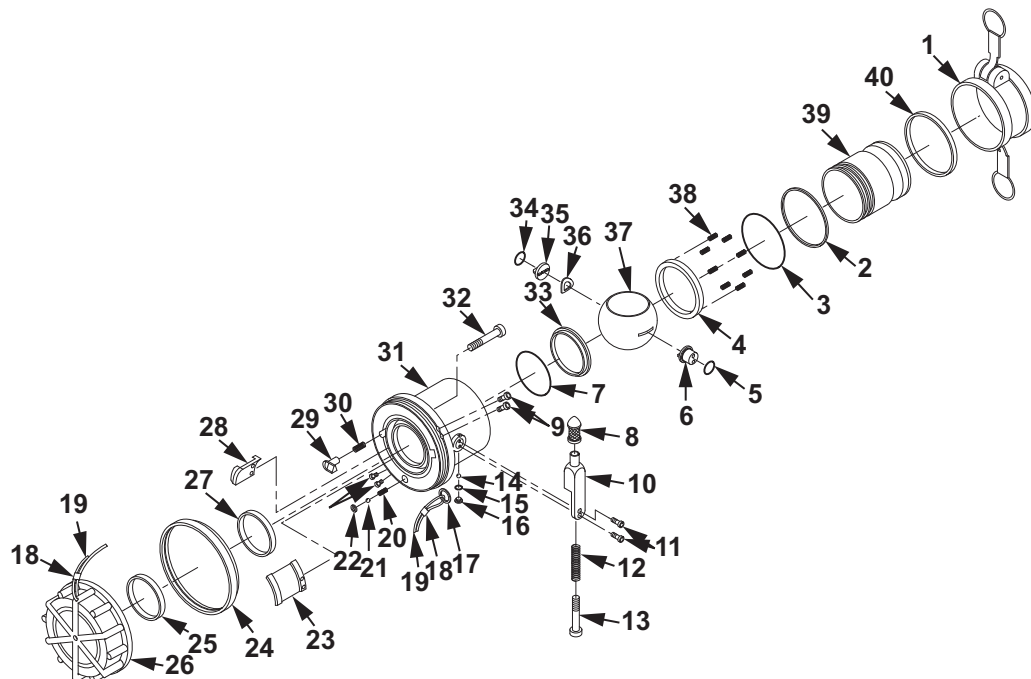
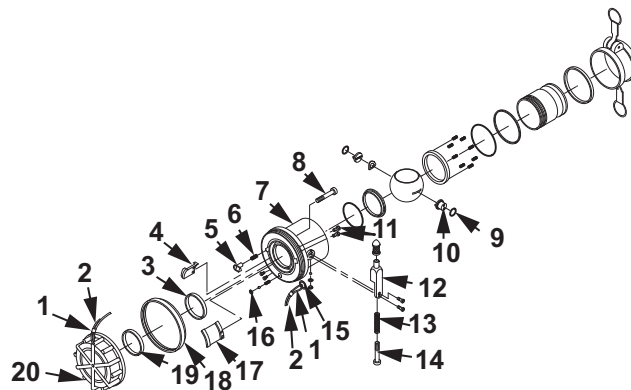

Figure 1. Valved Dry-Break Coupling Disassembly.
Figure 2. Valved Dry-Break Coupling Assembly.
1. Using a torque wrench and screwdriver bit, check running torque of screw (Figure 1, Item 16). If running torque is less than 3.5 in. lb (0.45 N•m), discard screw (Figure 1, Item 16).
Keep inlet hole in the up position when removing screw (Figure 1, Item 16) to prevent loss of ball bearings (Figure 1, Item 14) inside coupling (Figure 1, Item 31).
2. Remove screw (Figure 1, Item 16) from coupling (Figure 1, Item 31).
3. Remove O-ring (Figure 1, Item 15) from screw (Figure 1, Item 16).
4. Discard O-ring (Figure 1, Item 15).
5. Hold coupling with screw hole toward cleaning cloth and rotate inlet fitting to allow ball bearings (Figure 1, Item 14) to fall onto the cleaning cloth.
6. Remove inlet adapter (Figure 1, Item 39) from coupling (Figure 1, Item 31).
7. Remove seal (Figure 1, Item 4) from inlet adapter (Figure 1, Item 39). Discard seal (Figure 1, Item 4).
8. Remove eight springs (Figure 1, Item 38) from inlet adapter (Figure 1, Item 39).
9. Remove O-ring (Figure 1, Item 3) from inside groove of inlet adapter (Figure 1, Item 39).
10. Discard O-ring (Figure 1, Item 3).
11. Remove O-ring (Figure 1, Item 2) from outer groove of inlet adapter (Figure 1, Item 39).
12. Discard O-ring (Figure 1, Item 2).
13. Rotate ball valve (Figure 1, Item 37) to the closed position and remove from inside coupling (Figure 1, Item 31).
14. Remove spring washer (Figure 1, Item 36), stop pin (Figure 1, Item 35) and O-ring (Figure 1, Item 34) from inside coupling (Figure 1, Item 31).
15. Discard O-ring (Figure 1, Item 34).
16. Remove seal (Figure 1, Item 33) from coupling (Figure 1, Item 31).
17. Discard seal (Figure 1, Item 33).
18. Remove O-ring (Figure 1, Item 7) from coupling (Figure 1, Item 31).
19. Discard O-ring (Figure 1, Item 7).
20. Remove screws (Figure 1, Item 11) from control arm (Figure 1, Item 10).
21. Remove control arm (Figure 1, Item 10) from coupling (Figure 1, Item 31).
If it is necessary to disassemble control arm (Figure 1, Item 10), perform the following steps.
- a. Remove screw (Figure 1, Item 13) from control arm (Figure 1, Item 10).
- b. Remove spring (Figure 1, Item 12) from control arm (Figure 1, Item 10).
- c. Remove knob (Figure 1, Item 8) from control arm (Figure 1, Item 10).
22. Remove control arm shaft (Figure 1, Item 6) and O-ring (Figure 1, Item 5) from inside coupling (Figure 1, Item 31).
23. Discard O-ring (Figure 1, Item 5).
24. Remove seal (Figure 1, Item 27) from coupling (Figure 1, Item 31) interface.
25. Discard seal (Figure 1, Item 27).